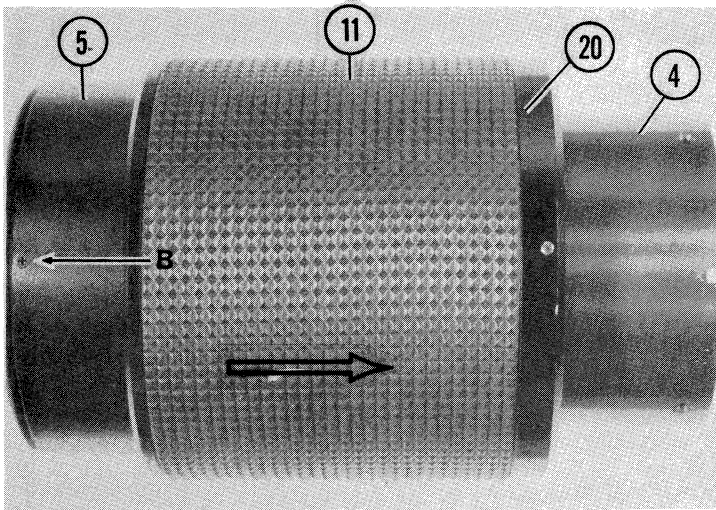

Fig. 9
- 2.1.6 Slide Zoom Collar Ring (20) to the rear to expose three screws (B), which attach Inner Focus Ring (5) to Outer Helicoid (3). Remove screws. (Fig. 9)
- 2.1.7 Slide Zoom Collar Assembly (Zoom Collar Ring 20 and attached parts) off the rear of the lens. (Fig. 9)